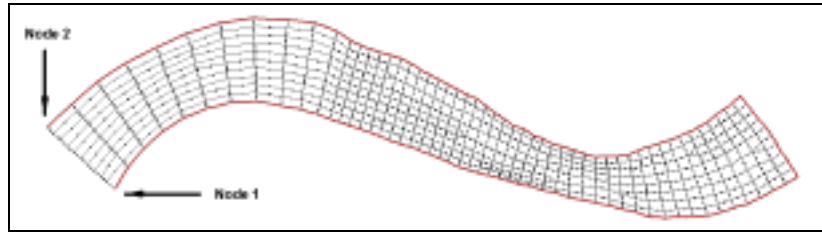

Figure 3-10 The nodestring to create for smoothing.
2. Click the node labeled *Node 1* in Figure 3-10.
3. Hold the *CTRL* key and double-click the node labeled *Node 2* in Figure 3-10. When holding the *CTRL* key, *SMS* creates a nodestring counter-clockwise around the mesh boundary from the first node to the second node.